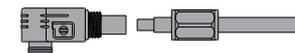

Figure 4.2-4 Put on the rubber ring
**Step2:** Put on the rubber ring, as shown in Figure 4.2-4.